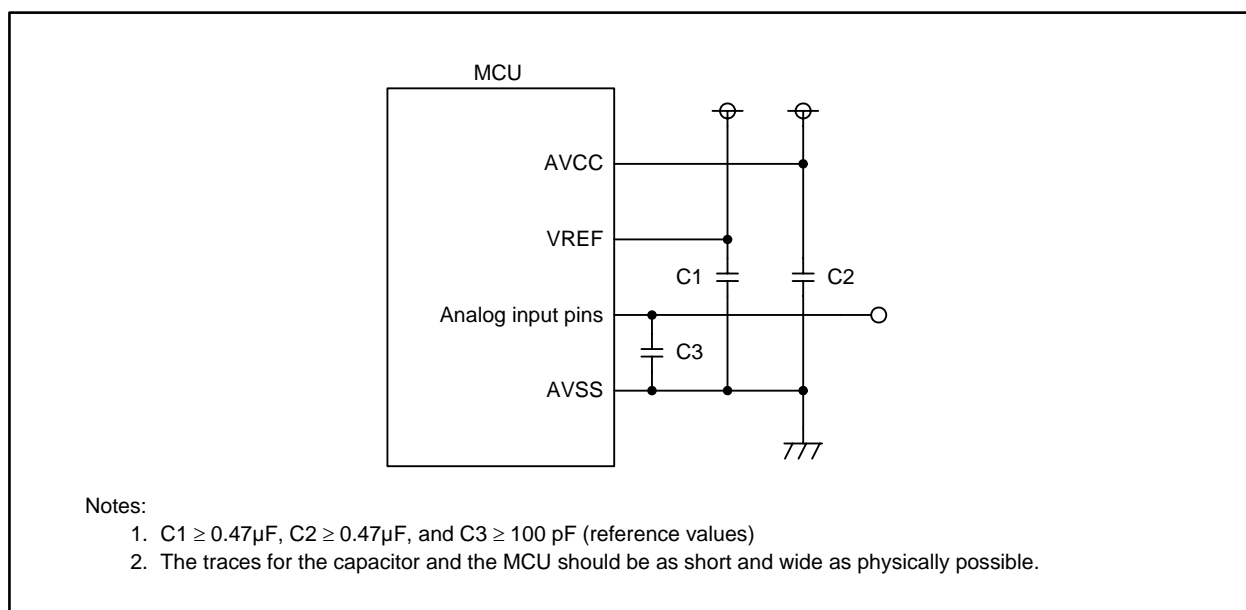

Figure 28.1 Pin Configuration for A/D Converter
- Three capacitors should be respectively placed between the AVSS pin and such pins as AVCC, VREF, and analog inputs (AN_0 to AN_7, AN0_0 to AN0_7, AN2_0 to AN2_7, and AN15_0 to AN15_7) to avoid error operations caused by noise or latchup, and to reduce conversion errors. Figure 28.1 shows an example of pin configuration for A/D converter.